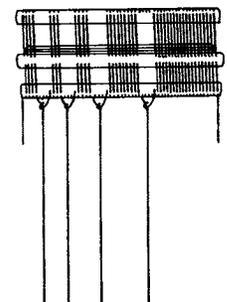

Figure 5
- () The final tank coil is mounted on the two feedthrough insulators as shown in Pictorial 4. Straighten all coil leads as shown in Figure 5. Insert the outside coil leads through the inside hole of the lug and draw the coil close into the insulator. Wrap the excess wire around the lug and avoid covering the end hole which is used for additional connections (NS). This coil should be aligned parallel and approximately 5/8" in from the panel edge of the chassis.